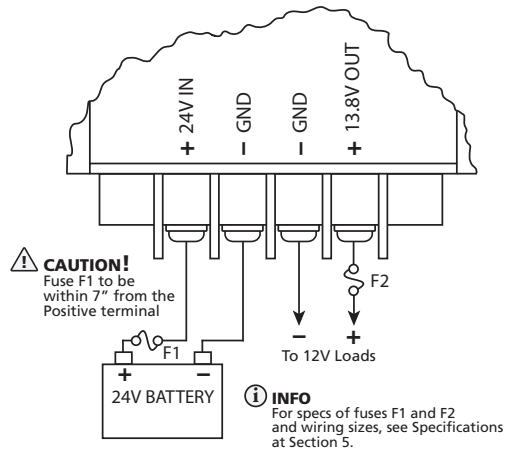

Fig 4.1 Installation Diagram
If the output voltage increases beyond 16.5 V \pm 0.5 V, a crowbar circuit will activate and blow the internal input side fuse (5, Fig 1.1) / external input side fuse F1 (Fig 4.1) will blow.
The input side is protected against over voltage and transients through a Transient Voltage Suppressor. In case the input voltage exceeds 37 VDC, the internal input side fuse (5, Fig 1.1) / external input side fuse F1 (Fig 4.1) will blow.
In case the input side polarity is reversed, the internal input side fuse (5, Fig 1.1) / external input side fuse F1 (Fig 4.1) will blow.
Installation information is given at Fig 4.1 below:
1. Please ensure that the polarity of the input connection is not reversed. Connect the Positive of the battery to the Positive terminal and the Negative of the battery to the Negative. In case the input polarity is reversed, internal input side fuse (5, Fig 1.1) / external input side fuse F1 (Fig 4.1) will blow.
- Connect the output wires to the load and then to the output side of the unit through the external fuse F2 (Fig 4.1). Observe correct polarity.
- Remove the external input side fuse F1 (Fig 4.1) in the Positive input wire.
- Insert the external input side fuse F1 (Fig 4.1) in the Positive input wire. **NOTE:** A spark may be observed when inserting the fuse due to the initial inrush current to charge the input side capacitors inside the converter.